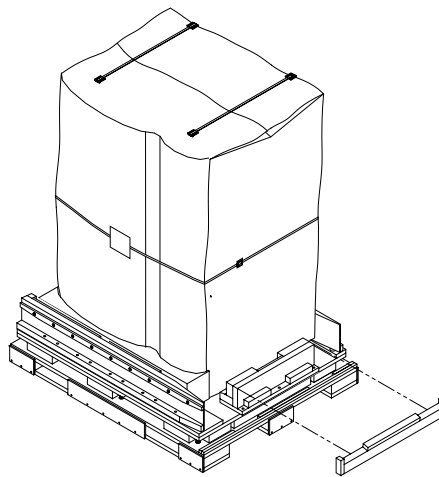

FIGURE 5-19 Attaching the Ramp Support for Shipping
17. Attach the support block (P/N 414-1110-01) to the front chock where the Velcro strips align. (FIGURE 5-19).